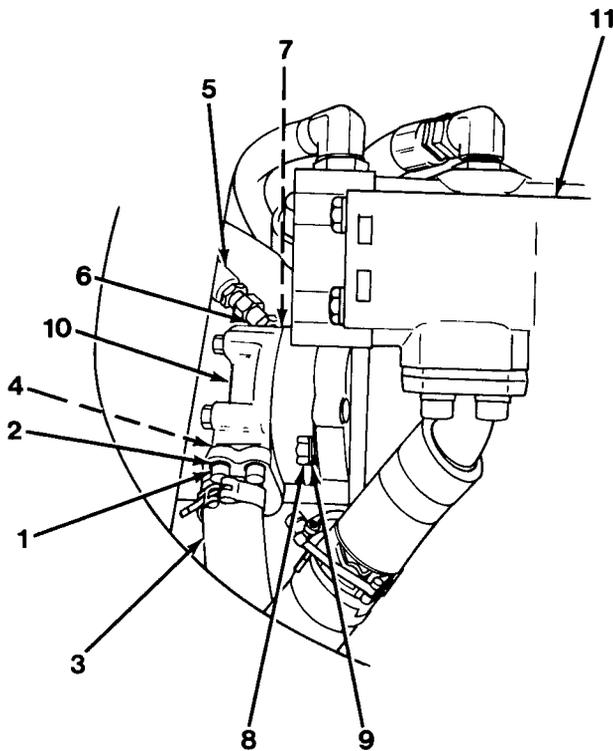

Figure 13-1
3. Remove four capscrews (1) and lockwashers (2, Figure 13-1).
4. Remove hose (3) from pump (10).
5. Remove O-ring (4) from hose (3).
6. Remove hose (5) from elbow (6).
7. Remove elbow (6) from pump (10).
8. Remove O-ring (7) from elbow (6).
9. Remove two capscrews (8) and lockwashers (9) attaching pump (10) to transmission (11).
10. Remove pump (10).
1. Coat splines of pump (10, Figure 13-1) with antiseize thread compound MIL-A-907. Apply Loctite 515 to pump (10) mounting flange.
2. Apply Loctite 271 to two capscrews (8).
3. Position pump (10) on transmission (11) and install two lockwashers (9) and capscrews (8).
4. Install O-ring (7) on elbow (6).
5. Install elbow (6) on pump (10).
6. Install hose (5) on elbow (6).
7. Install O-ring (4) on hose (3).
8. Position hose (3) on pump (10) and install four lockwashers (2) and capscrews (1).